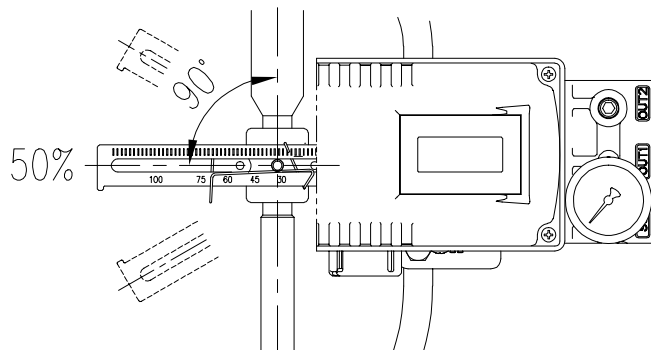

Fig. 3-11: YT-3300L / 3350L Feedback lever and valve stem
- 7) Check if feedback lever is vertical to the valve stem at 50% of the valve stroke. If it is not vertical, adjust the adapter holder on the actuator's stem to make vertical – **DO NOT TIGHTEN THE ADAPTER HOLDER COMPLETELY**. Improper installation may cause poor linearity. Refer to Fig 3-11.